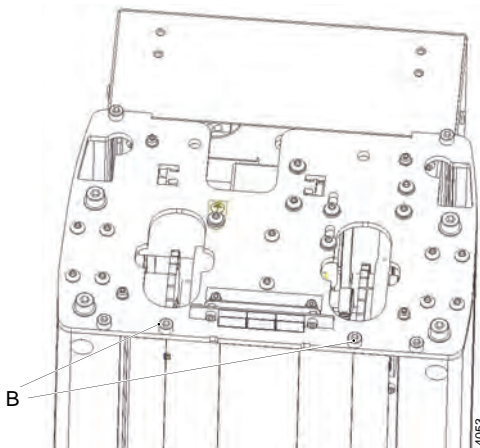

Fig. 4-168 Remove upper screws
15. Insert and tighten the 2 upper screws (B) holding the front aluminium plate, see Fig. 4-168 *Remove upper screws*.